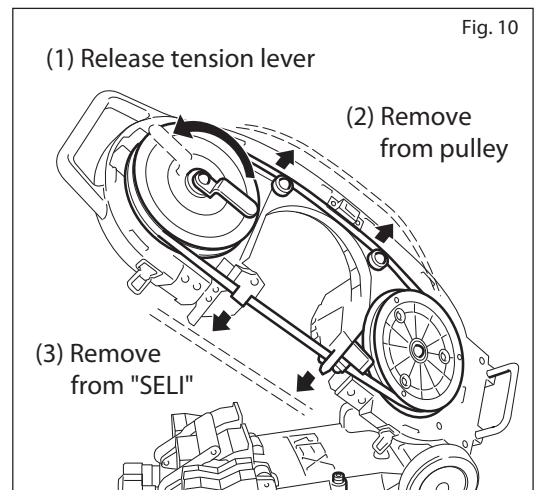

Fig. 10
Removing the blade (Fig. 10)
- Attach the blade, using steps (1) through (5) in Fig. 10. Then turn the tension lever clockwise (6) to apply tension to the blade.